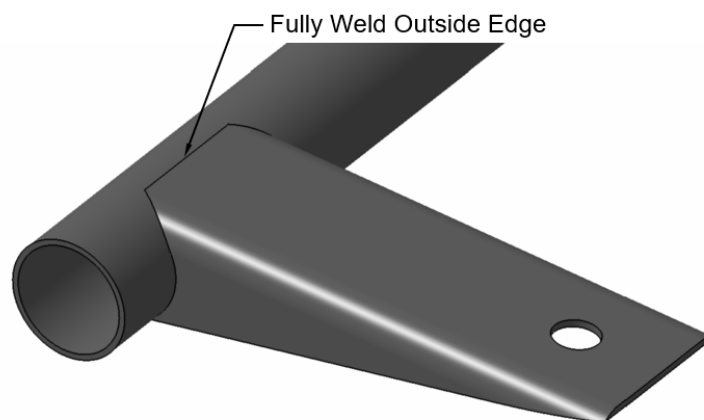

Figure B-43: Minimum weld length
5. Minimum Weld Length: At least the full outside face of the bracket must be welded to the supporting tube as shown in Figure B-43.